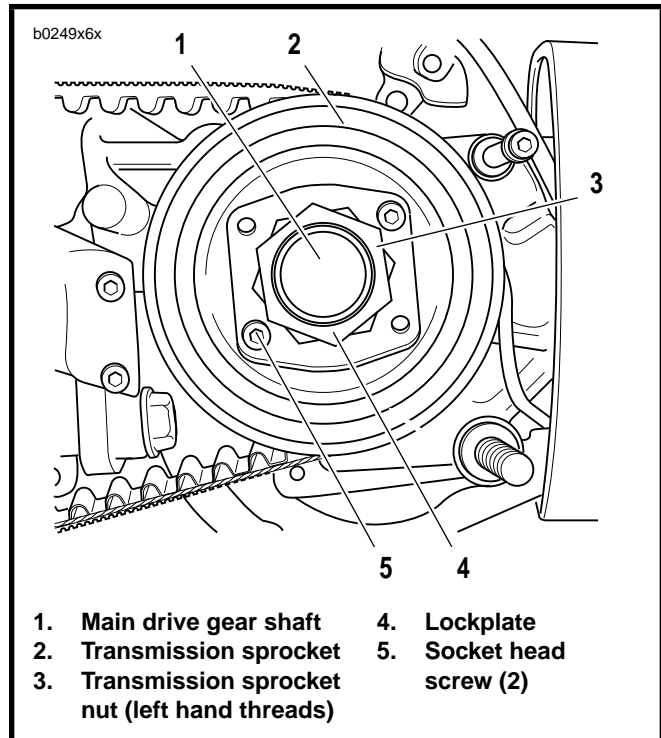

Figure 6-13. Transmission Sprocket
6. See Figure 6-13. Place transmission in first gear. Remove two socket head screws (5) and lockplate (4).